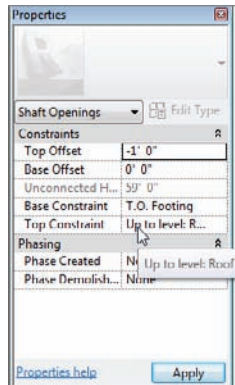

FIGURE 6.56 Setting the properties of the shaft opening
1. In the Properties dialog box, make sure Shaft Openings is selected, as shown in Figure 6.56.
5. Click Apply. Figure 6.56 shows the settings.